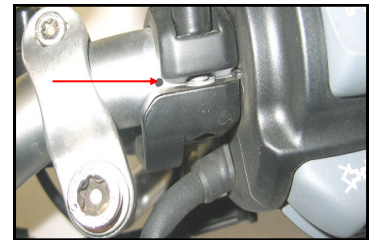

FIGURE 1
- Step 2:** Ensure Throttle assembly is correctly positioned along hand bars as seen in **Figure 1**. The black "Pop Mark" shows the correct alignment. If incorrectly positioned, loosen throttle assembly clamp screws and slide throttle assembly to correct position.